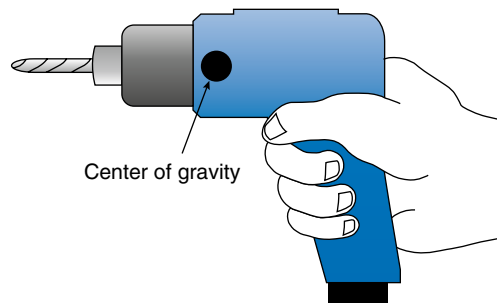

FIGURE 11.3
For example, a worker should be able to operate the electric drill shown in Fig. 11.3 with one hand. To do this safely and comfortably, the weight of the tool should not exceed two pounds (1 kg) and the center of gravity should be near the center of the gripping hand. The tools should be easy to hold in any position needed. Drills that are front-heavy can produce stress in the wrist and forearm.
3. The electric drill in Fig. 11.3